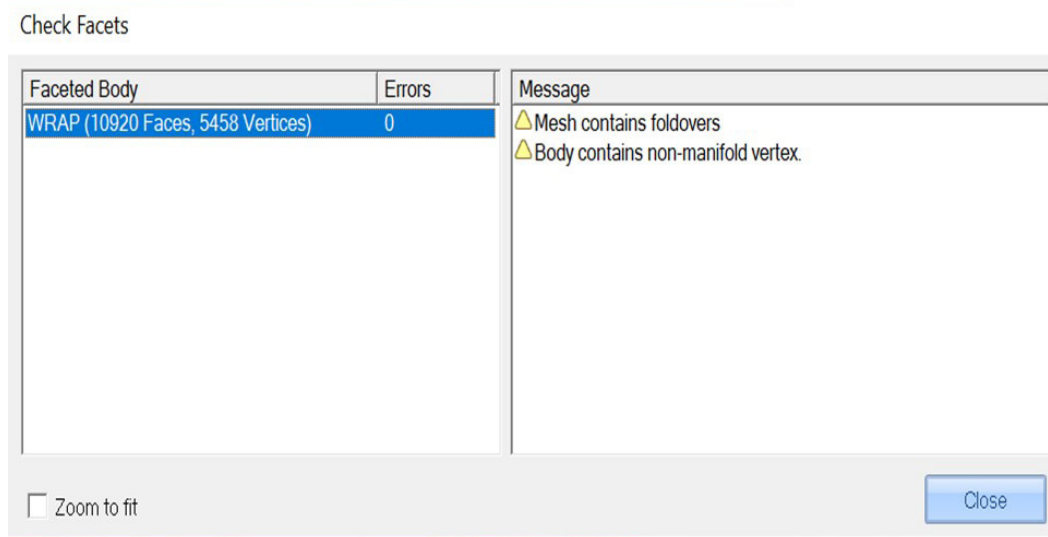

Figure 5: Checking facets after applying the “Auto Fix” to the paddle scan data
2. Select “Check Facets” to check any remaining errors within the scan data (Figure 5)